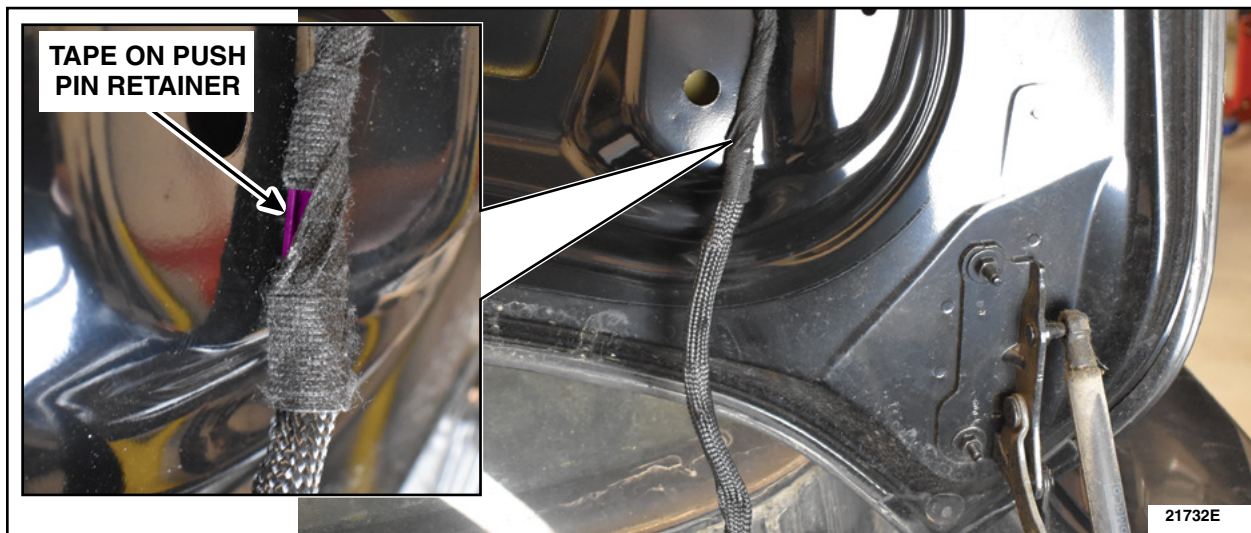

FIGURE 6
10. Disconnect the wire harness tape on push pin retainer from the luggage compartment lid. See Figure 6.